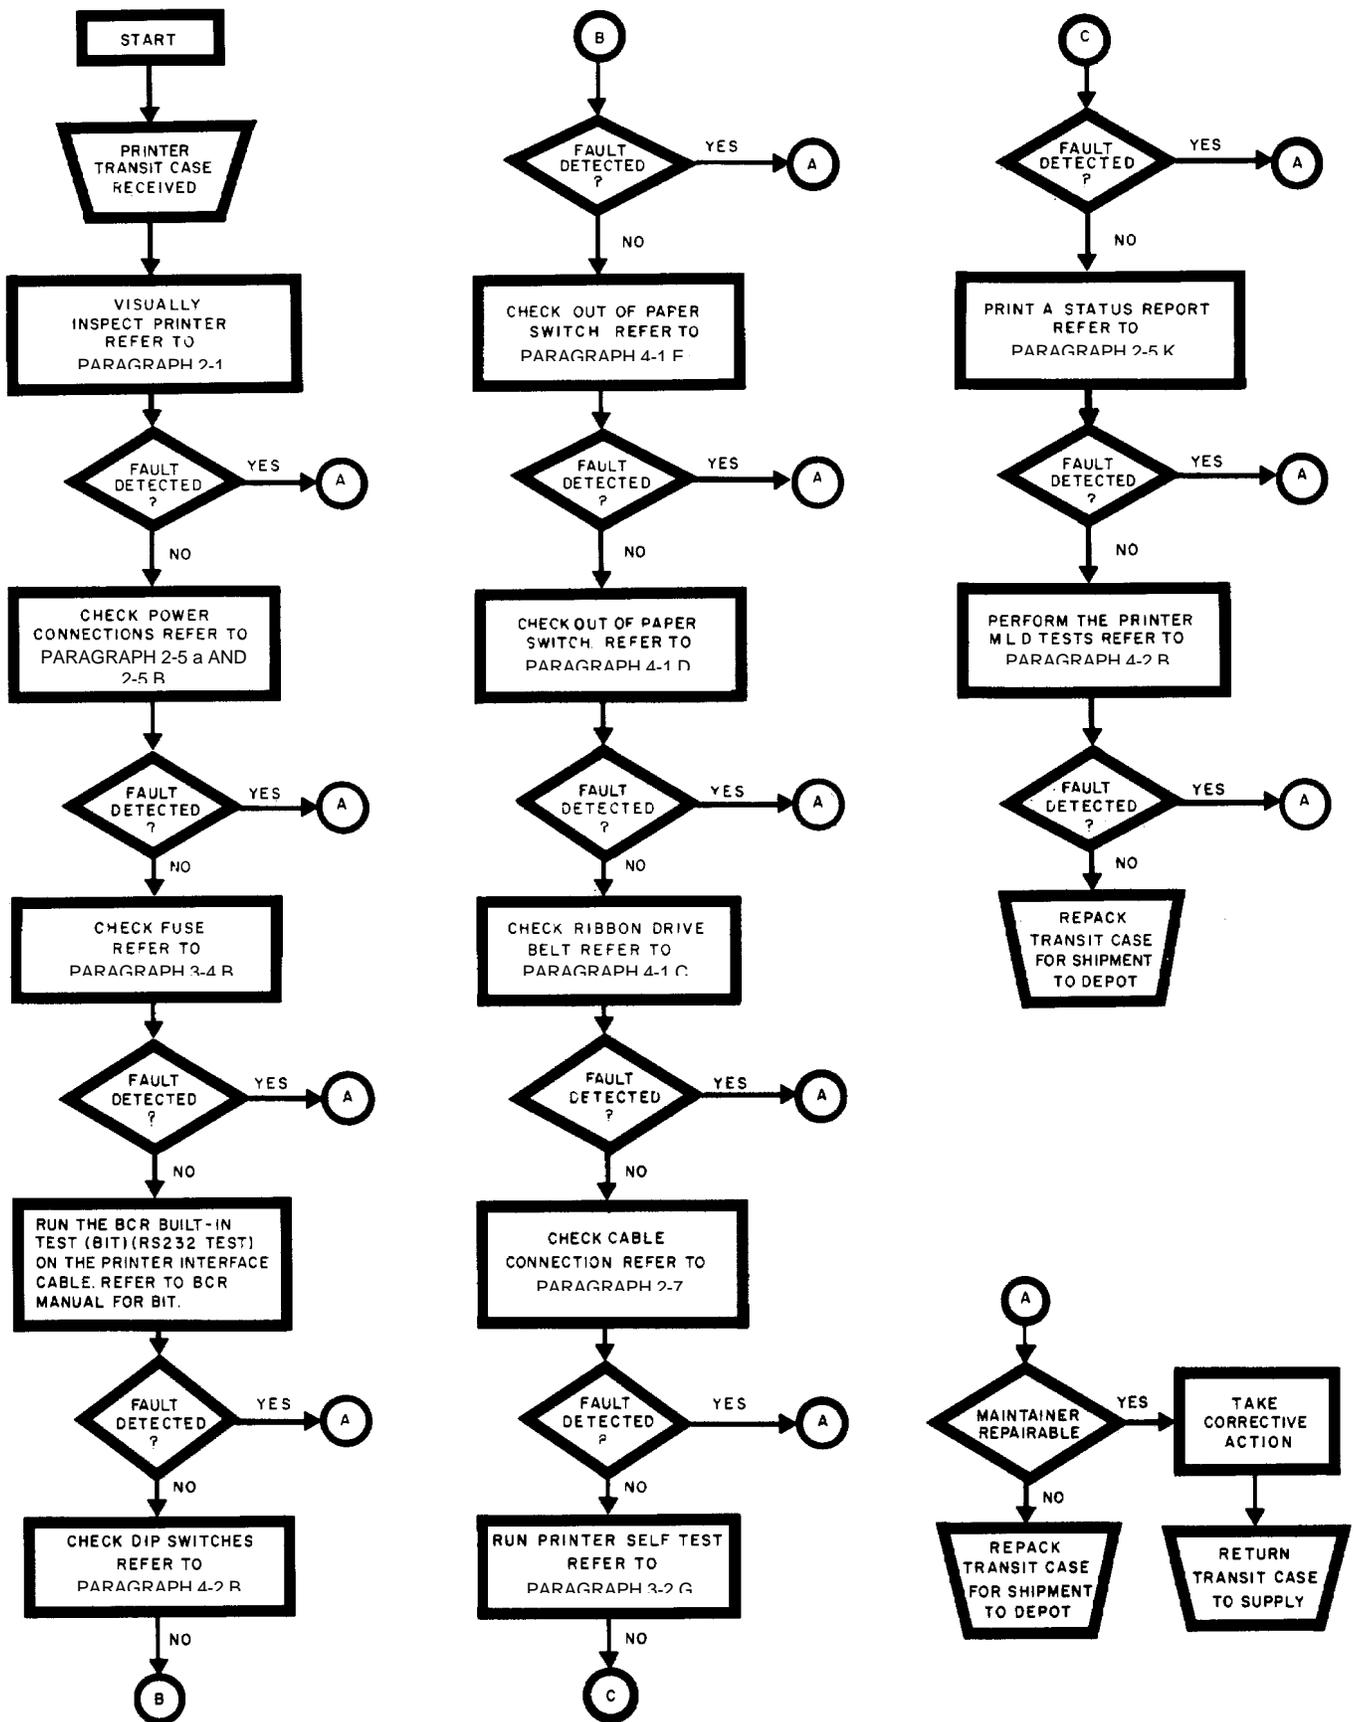

Figure 4-3. Printer Maintainer Troubleshooting Flow Chart.
(2) Printer Self-Test.
(3) Maintenance Level Diagnostic (MLD) To perform the MLD, proceed as follows See figure 4-3 for Maintainer Troubleshooting Flow Chart.